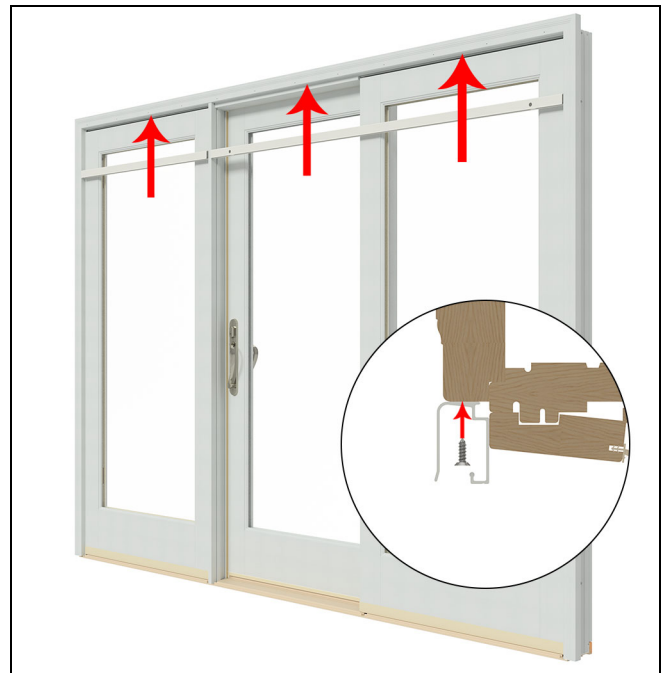

Figure 10
1. Center the screen track at the unit head jamb. Align the front of the screen track with the front edge of the BMC. Pre-drill pilot holes through the screw holes in the screen track to the head jamb with the 3/32"(2) drill bit. Secure the screen track to the head jamb with the supplied screws. See Figure 10.